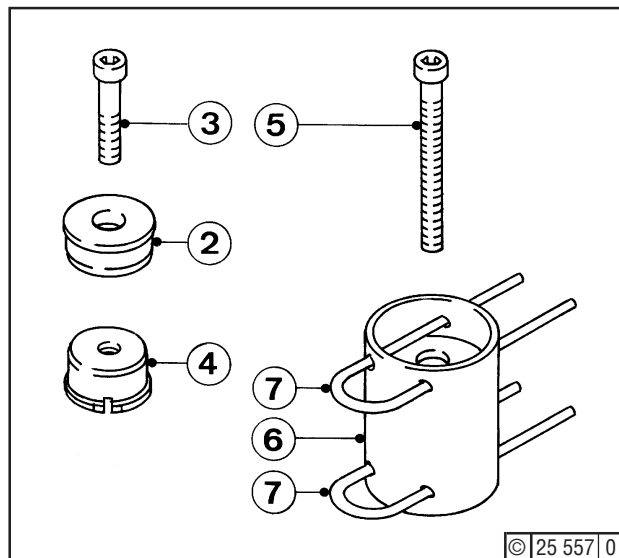

Fig. 3
Push lower fork (7) - Fig. 3 - into tube (6) and place the spring in tube with device. Push upper fork (7) into tube and turn short screw (3) out of device. Now screw in the longer screw (5) - Fig. 3 - and compress the spring a little. Remove top fork and turn out longer screw. The spring is now unloaded.